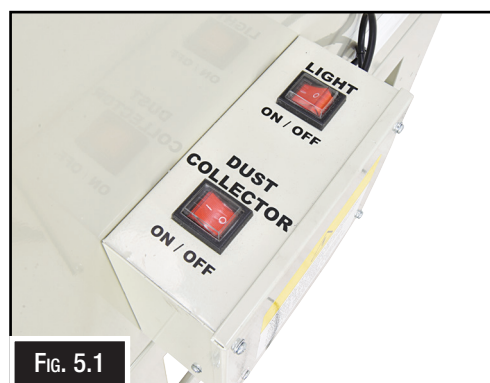

FIG. 5.1
1. **LIGHT ON/OFF Switch:** Switches on the light, in the cabinet. (Fig. 5.1)
2. **DUST COLLECTOR Switch:** Switches ON/OFF the dust collector. (Fig. 5.1)